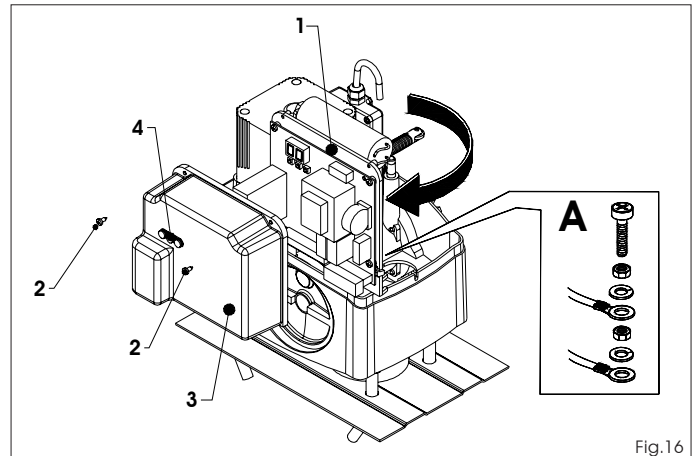

Fig. 16
Connect the earth cables as shown in Fig.16 ref.A.
In the "C" version gearmotors, the electronic control unit is fitted to an adjustable support (Fig. 16 ref. 1) with transparent lid (Fig. 16 ref. 3).
The board programming push buttons (Fig. 16 ref. 4) have been located on the lid. This allow the board to be programmed without removing the lid. For correct connection of the control unit, follow indications the specific instructions.